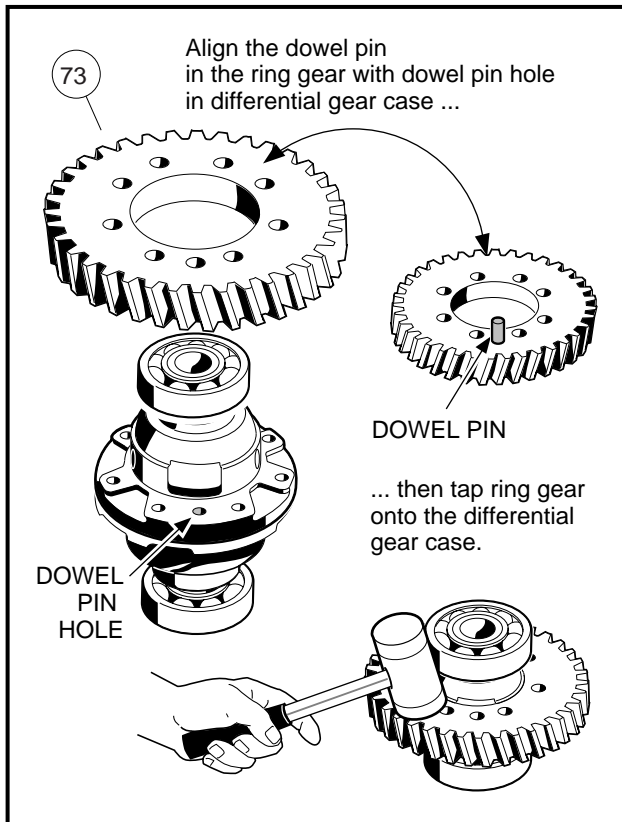

Figure 16-64 Ring Gear
6. Position the output ring gear (73) on the carrier case, visually aligning the dowel hole in the carrier case with the dowel pin in the ring gear. Using a plastic or rubber mallet, tap the ring gear into place on the dowel pin as shown (**Figure 16-64, Page 16-28**).